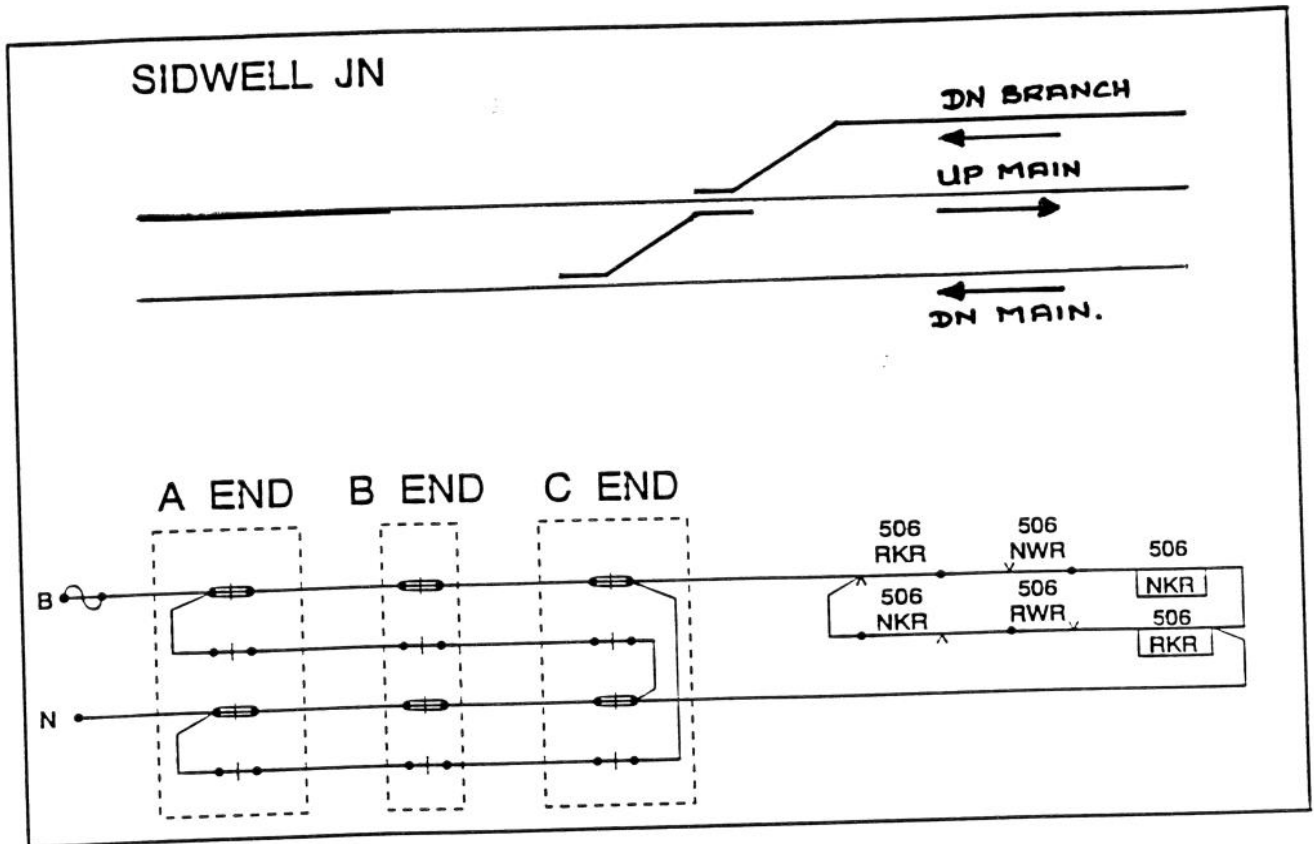

Figure 8. 3 Ended Point Layout - 1 Detection Circuit
- 1) The B end point machine in Figure 8. has been renewed.